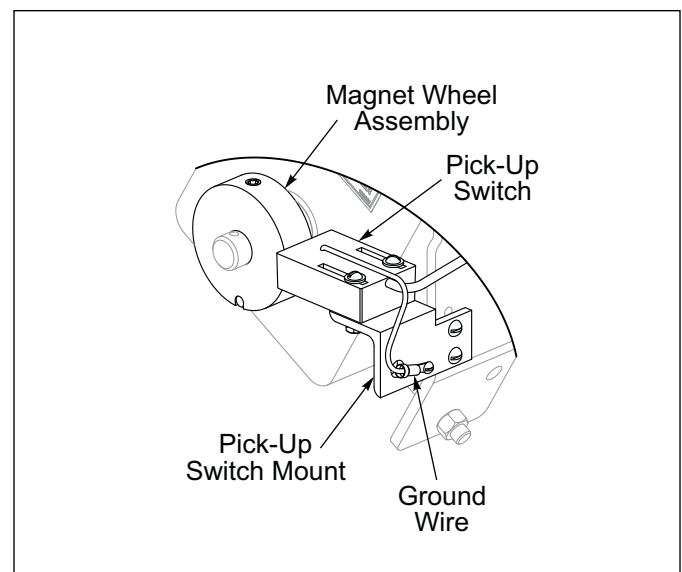

Figure 2-24: Pick-Up Switch Ground Wire
7. Attach the short pickup switch ground wire to the small hole in the Switch Bracket with a #6-32 x 1/2" machine screw, removing paint under the wire connector to assure a good electrical ground connection. **See Figures 2-24.**